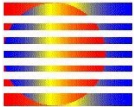

Figure 8: Sapphire Hub Configuration and Management Main Menu
Step 2. From the **Hub Configuration and Management** main menu, select **Administration**; next select the **Network** tab within the **Administration** menu. (Figure 8)